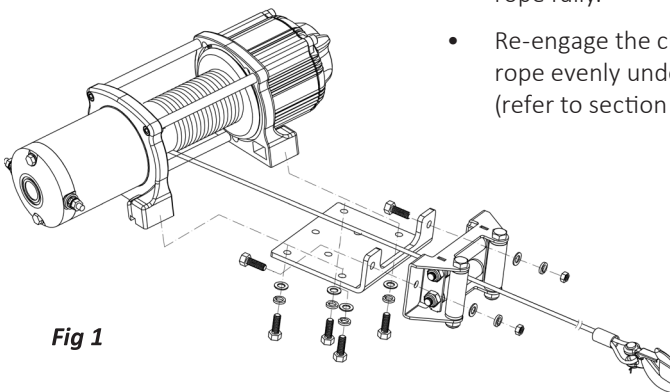

Fig 1
- The winch must be mounted with the direction of pull perpendicular to the mounting bolt fixings. See Fig 1.